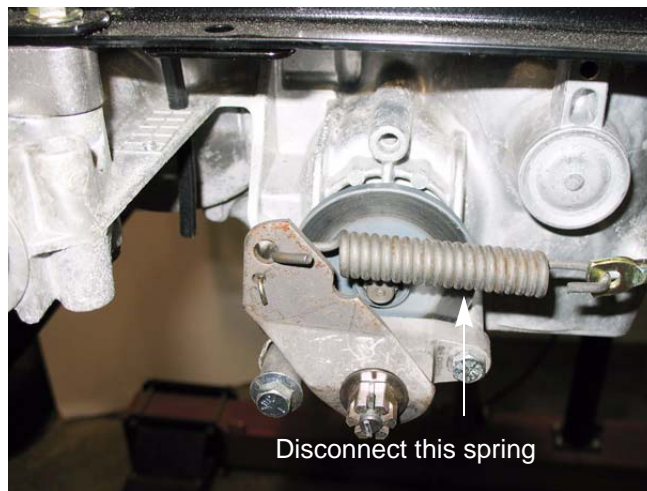

Figure 3.7
3. Disconnect the brake rod spring. See Figure 3.7.